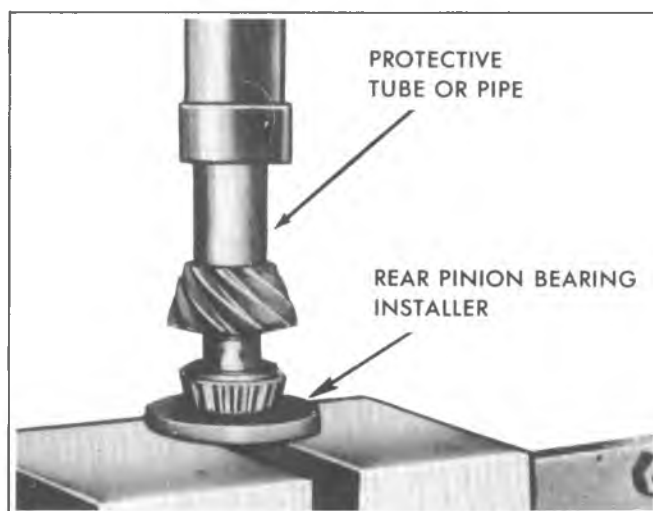

Fig. 24C--Installing Pinion Rear Bearing
b. If the pinion has no plus (+) or minus (N) number, use the indicator reading as the correct shim thickness.
17. Install the rear bearing on drive pinion, using J-8609 as shown in figure 24C.